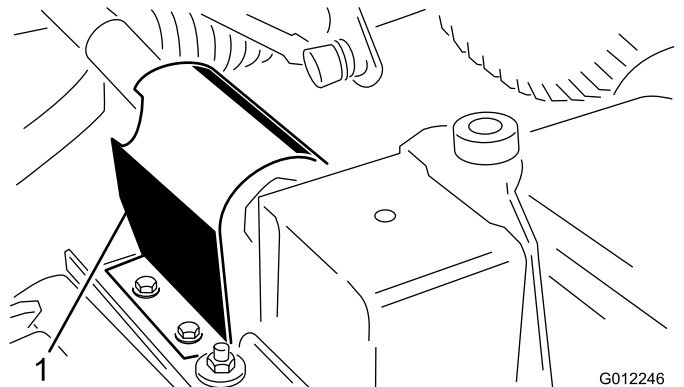

Figure 5
1. Remove the 2 self-tapping screws securing the PTO shield to the top of the cutting unit gear box mounting plate and remove the shield (Figure 5).